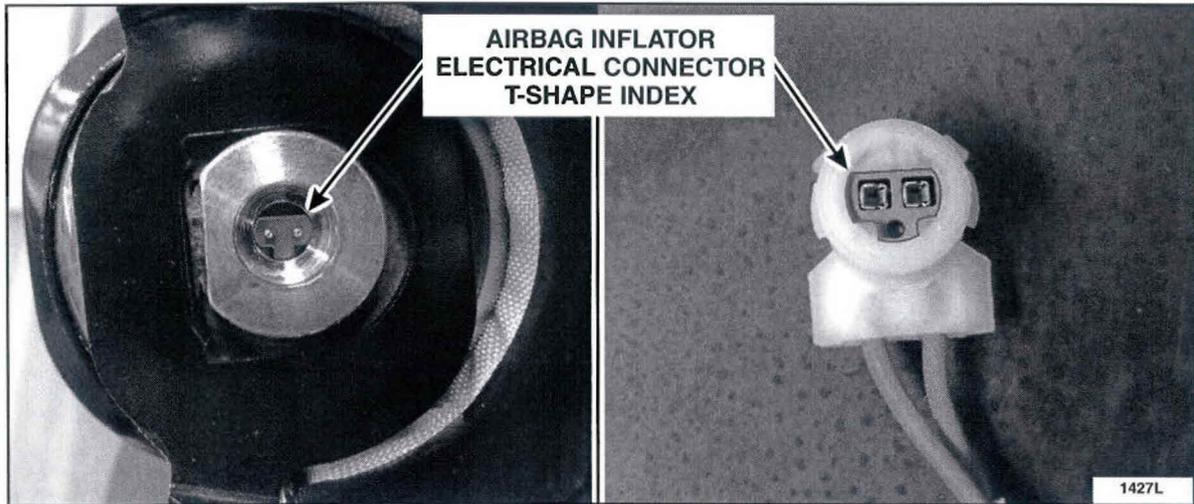

FIGURE 11
13. Connect the *new* wiring harness to both sides of the passenger airbag inflator. See Figure 11.